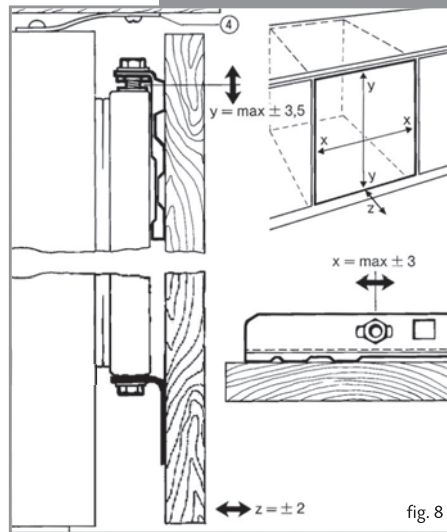

fig. 8
- Pre-adjust the appliance at slots (4) as shown in figure 8, into the mounting plate on the worktop.
- Adjust height Y at locating pin (14mm wrench) as shown in figure 8, $Y = \max \pm 3.5\text{mm}$.
9. Screw the upper and lower hinge on the opposite side of the appliance body using suitable screws (Fig. 8). Upper hinge should be mounted on the other side of the appliance as the lower hinge. The lower hinge should be mounted on the other side of the appliance as the upper hinge. With the hinges open, hold the door parallel to the appliance body and screw the hinges to the door using suitable screws while taking proper care.